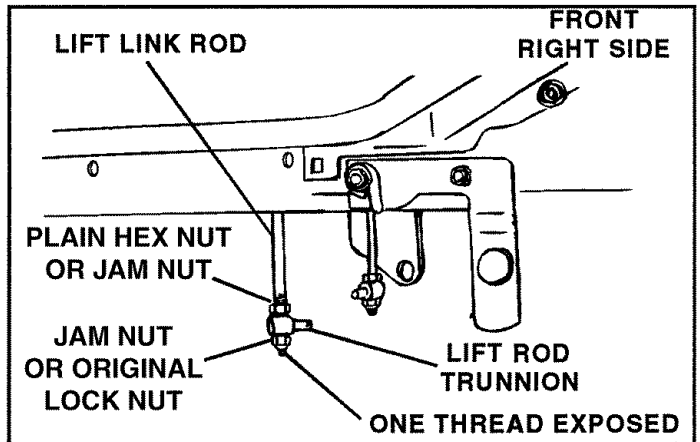
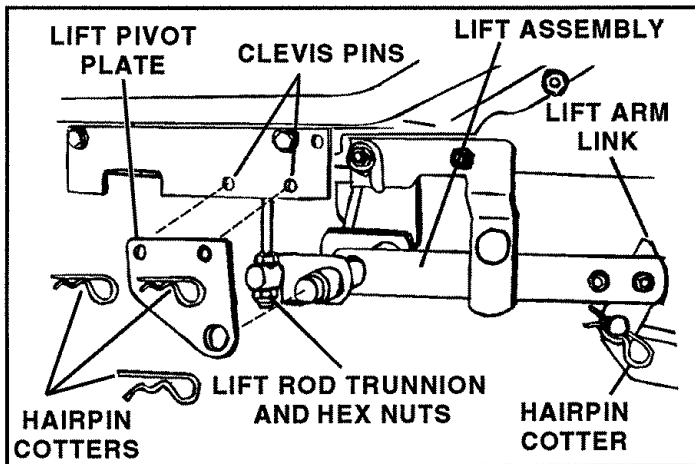

FIGURE 16
FIGURE 32
2. Refer to figure 32 below and;
- D. Remove lift rod trunnions and hex nuts from each lift link rod. See Figure 32 and figure 16 on page 7.
Frame Brackets do not require removal for re-assembly of mower deck. See figure 32.